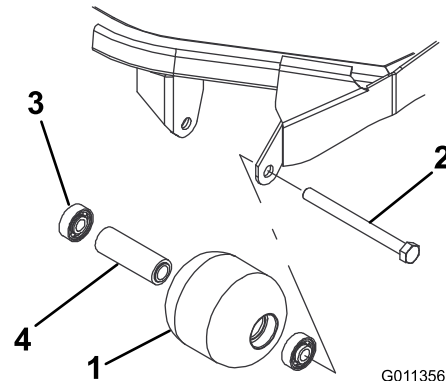

Figure 120
1. Remove the roller-mounting bolt (Figure 120).
4. Inspect the roller housing, bearings, and bearing spacer for damage (Figure 120). Replace any damaged components and assemble them.
1. Press the first bearing into the roller housing (Figure 120). Press on the outer race only or equally on the inner and outer race.
2. Insert the spacer (Figure 120).
3. Press the second bearing into the roller housing (Figure 120). Pressing equally on the inner and outer race until the inner race contacts the spacer.